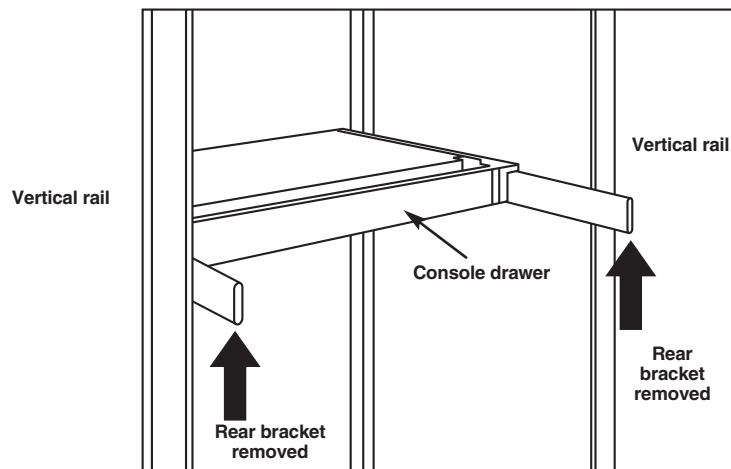

Figure 3-5. Front brackets support the console drawer.
- Remove both of the loosely connected rear brackets and slide the console drawer out halfway to balance its weight. (See Figure 3-5.) The front brackets are now supporting the console drawer.